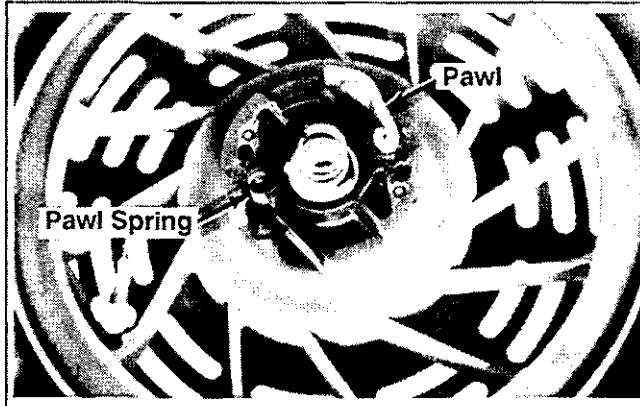

Figure 7-10. Installing Pawls And Pawl Springs.
- Install the pawls springs and pawls into the starter pulley. See Figure 7-10.